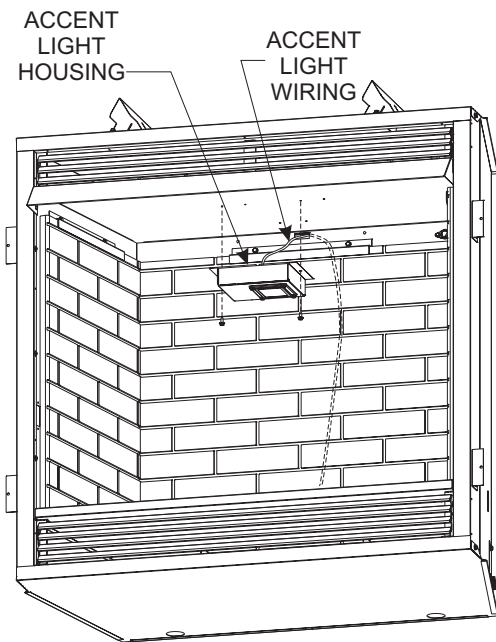

Figure 3
5. Next, locate the accent light kit housing assembly. Run the wire assembly through the hole in the back panel between the firebox wall and the outer wrapper wall. See **Figure 3**.
6. While feeding the wiring through the hole in the back panel of the firebox, raise the housing assembly to the firebox top, secure the housing assembly with (2) #10 x 1/2" hex head screws. Be sure glass lens is centered in firebox, and that the wires are routed through the flanged side of housing assembly toward the rear of the unit. See **Figure 3**. Check to make sure the wiring is not pinched, or in a bind when securing this assembly.